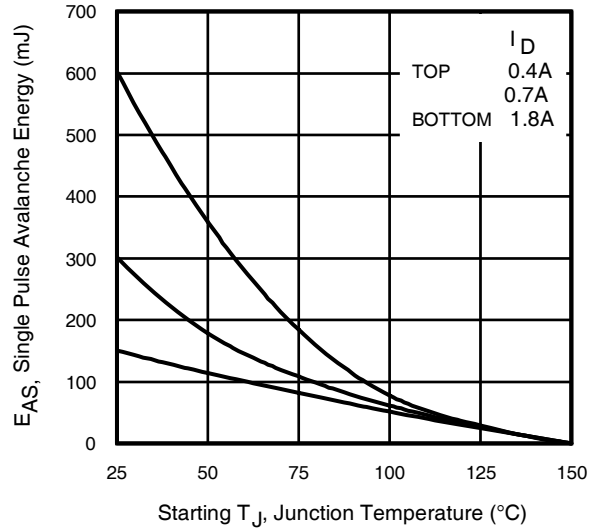

Fig 13. Maximum Avalanche Energy vs. Drain Current
- ② Starting $T_J = 25^\circ\text{C}$, $L = 93\text{mH}$, $R_G = 25\Omega$, $I_{AS} = 1.8A$. (See Figure 13).
- ③ $I_{SD} = 3.6A$, $di/dt \leq 520A/\mu s$, $V_{DD} V_{(BR)DSS}$, $T_J \leq 150^\circ\text{C}$.
④ Pulse width $\leq 300\mu s$; duty cycle $\leq 2\%$.
⑤ $C_{oss \text{ eff.}}$ is a fixed capacitance that gives the same charging time as C_{oss} while V_{DS} is rising from 0 to 80% V_{DSS} .